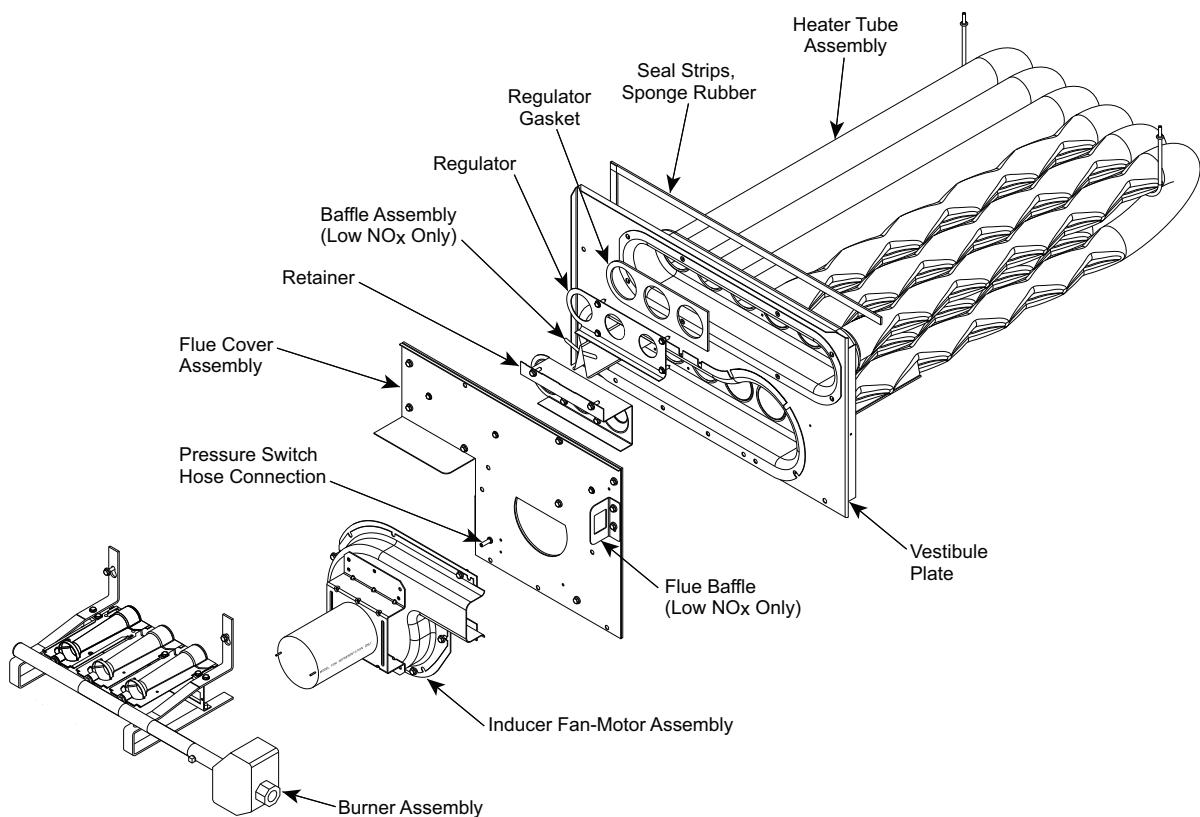

Fig. 49 — Heat Exchanger Assembly
1. Remove the combustion blower wheel and motor assembly according to directions in Combustion-Air Blower section. See Fig. 49.
2. Remove the 7 screws attaching the induced-draft motor housing to the vestibule plate. (See Fig. 49.)
9. Remove the 2 screws attaching the burner rack to the vestibule plate (see Fig. 49).
9. Remove the 2 screws attaching the burner rack to the vestibule plate (refer to Fig. 49).
10. Remove the pressure switch hose from the connection on the flue cover assembly (see Fig. 49).
14. Separate the following from the heat exchanger: inducer fan-motor assembly, flue cover assembly, retainer, regulator, regulator gasket, and if a Low NOx unit, also remove the baffle assembly. See Fig. 49.